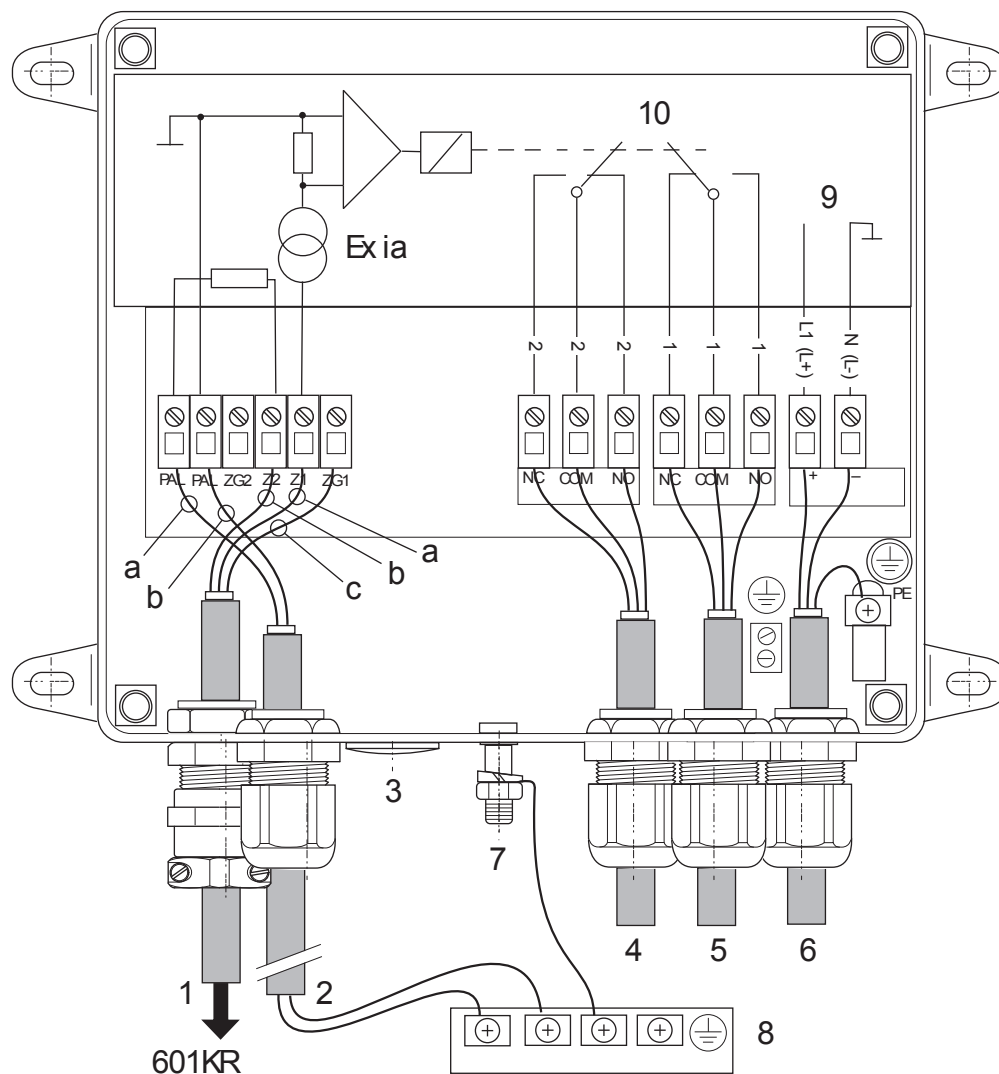
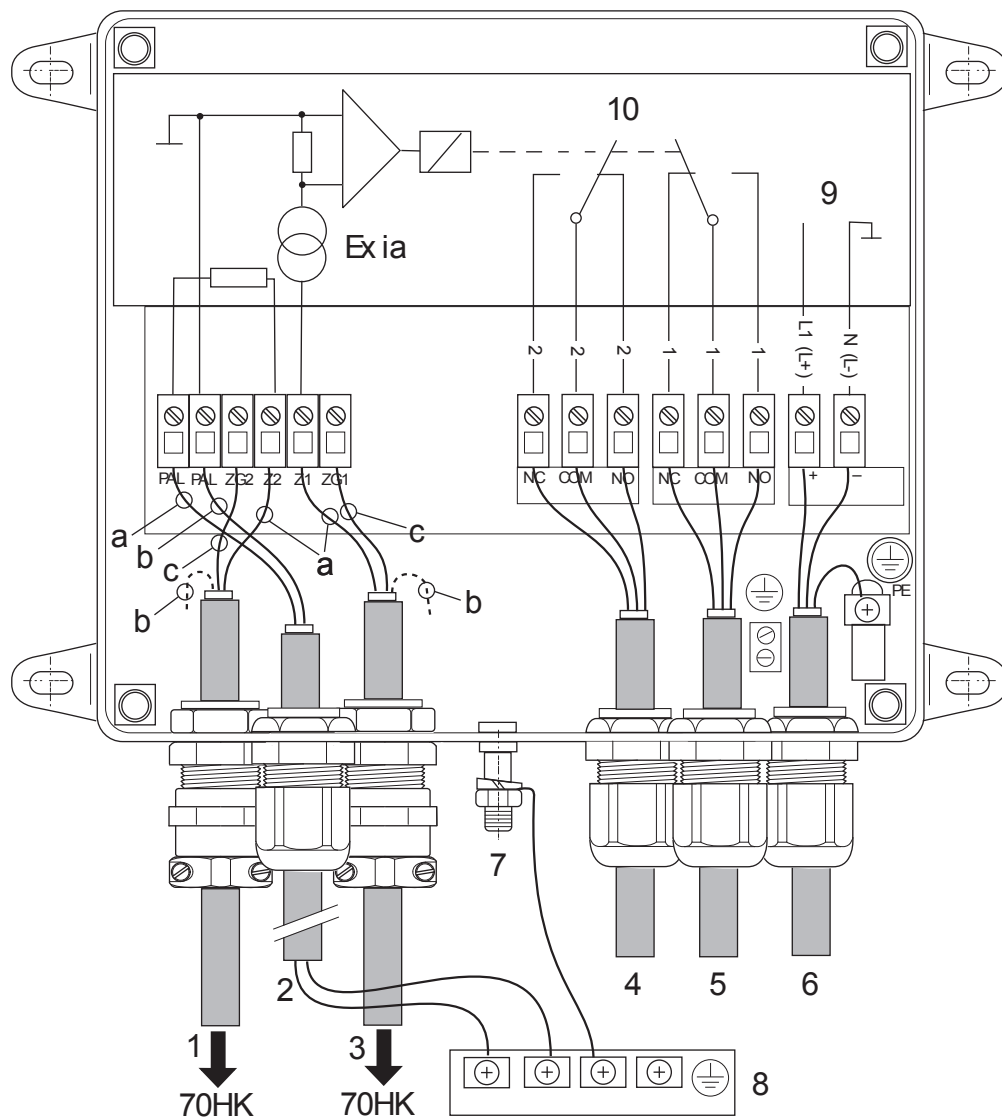

Fig. 4:
Fig. 5:
- The unit must be connected to the equipotential bond via the external ground terminal (7, Fig. 4 / Fig. 5). In addition, the ground terminal inside the enclosure must be connected to a PE conductor or a bonding conductor (see chapter 3.1.2 "Assembly", page 13).
- Intrinsically safe circuits must be routed separately from non-intrinsically safe circuits (separate cable conduits/ducts). Crossing intrinsically safe and non-intrinsically safe leads is not permitted. An equipotential bonding connection (PA) must be established along the entire intrinsi-
The unit must always be connected to the equipotential bond via the external ground terminal (7, Fig. 4 / Fig. 5). In addition, the ground terminal inside the enclosure must be connected to a PE conductor or a bonding conductor.
circuits are intrinsically safe. The non-intrinsically safe terminals for the supply voltage and the signal contacts are located on the right (see Fig. 4 / Fig. 5).
The connecting lead of the clamp is routed in via the cable screw connection with kink guard (1, Fig. 4 / Fig. 5). Appliances for BIG-BAG grounding have two contactors, and the second lead is routed in via an additional cable screw connection with kink guard (3, Fig. 5).
A two-core cable for connecting the ground circuit with the PAL bonding lead is routed into the connecting terminal space via the cable inlet (2, Fig. 4 / Fig. 5). The double routing ensures that any disruptions to the PAL bonding lead are identified.
The two PAL leads belong to the intrinsically safe circuit, see cable entry 2, Fig. 4 / Fig. 5. The terminals of the Terrabox TCB030 are also marked as intrinsically safe terminals (blue).
The signal leads are routed via the cable inlets (4 and 5, Fig. 4 / Fig. 5), the supply voltage lead is routed in via the cable inlet (6, Fig. 4 / Fig. 5).
In the ex factory state, the lead-ins (2, 4 and 5, Fig. 4 / Fig. 5) are sealed. Lead-ins not used must be blanked off.